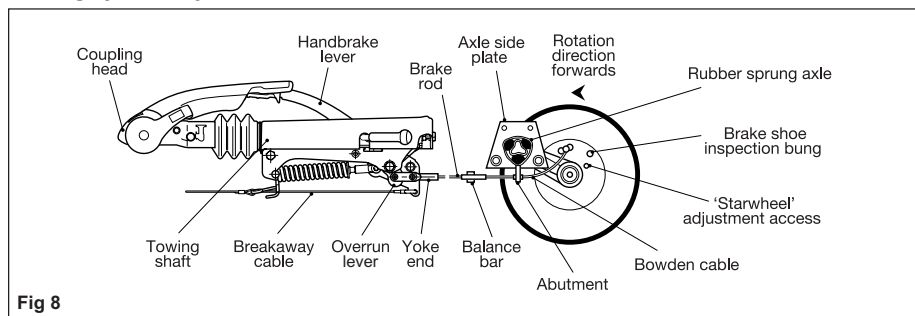

Fig 8
- Ensure the towing shaft with coupling heads is pulled fully forward (Fig. 8).
- Release the handbrake to the fully off position. If the handbrake will not go down the whole way because of the fairing or any other obstruction; then the fairing must be cut away and/or the obstruction removed to achieve this desired position. It will not be possible to set up the braking system properly when the handbrake is not in the fully off position (Fig. 8).
- Remove the inner plastic bung from the backplate to expose the 'starwheel' adjuster access (Figs. 8 & 9).
pulled out it should extend between 5 and 8 mm (Fig. 8). (On tandem axles a double abutment is fitted to the front axle only).
- Ensure the balance bar (compensation) is being pulled evenly. This bar (double on tandem axles) should always be paralleled with the axle tube when pulled (Figs. 8 & 10). Adjust M8 lock and ball nuts, if necessary, to achieve correct parallel position (Fig. 10).
- Over adjustment to the long ball nut (Fig 10), could induce movement of the inner brake cable, reducing the effective clearance of the brake shoes. If the overrun lever will not make contact, it is possible the two lock nuts, forward of the spring cylinder, are incorrectly adjusted. Loosen the nuts and adjust the brake rod as above (Figs 8 & 10).